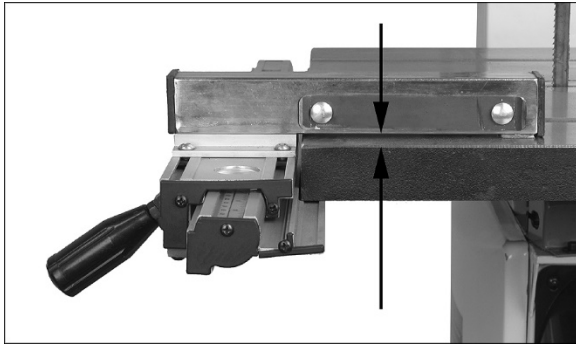

Figure 5-18
2. Slide fence body onto end of guide rail (Figure 5-18) and push down handle to lock fence body to rail. There should be an even gap between table surface and the length of fence body.